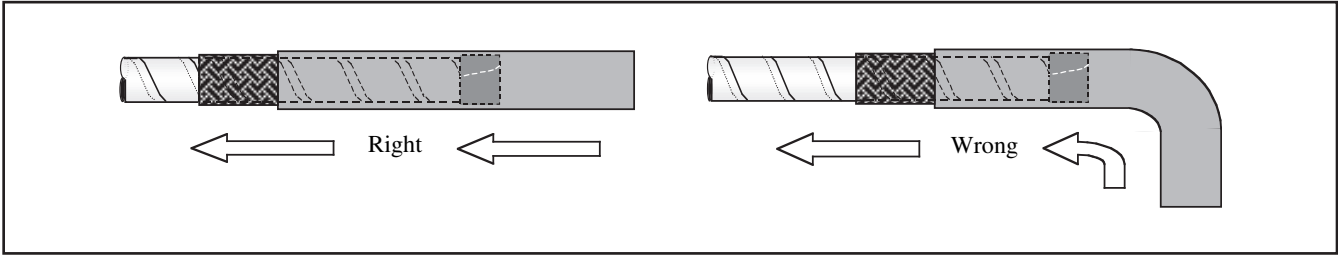

Figure 16
5.5 Guide one re-jacketing sleeve assembly over each cable phase leg (Figure 16). Push sleeve assembly from above. Continuously guide the free end while maintaining sleeve-to-cable-core alignment.